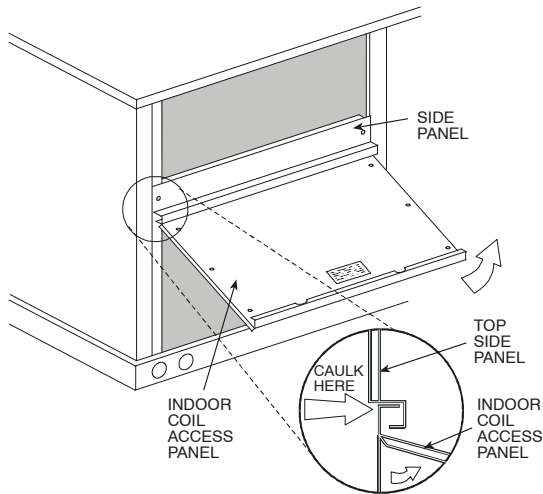

Fig. 12 - Indoor Coil Access Panel Relocation
1. The indoor coil access panel will be used as the top of the hood. Remove the screws along the sides and bottom of the indoor coil access panel. See Fig. 12.